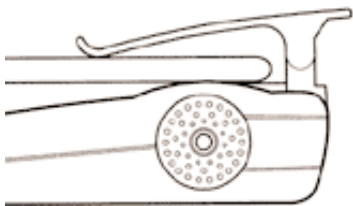

Figure 6
3. Clip the detector to the edge of the sun visor as close as possible to the windscreen. See figure 6.